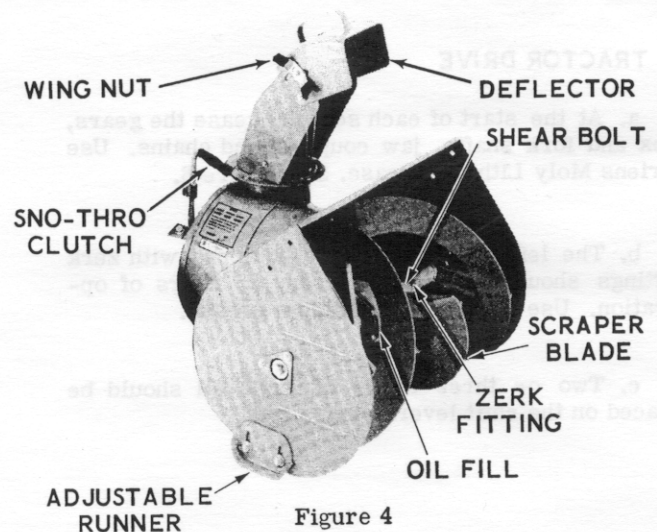

Figure 4
(1) Fasten the chute control crank to the tractor handle bar with the hardware provided. Position the worm gear so that it meshes properly with the chute. Fasten securely.
a. An adjustable runner is provided on each side of the blower housing (figure 4). Raising or lowering these runners controls the distance the scraper blade is held above the surface being cleared. Adjustment is accomplished by loosening the two nuts on each of the runners to the desired position and retightening the nuts. When blowing snow off concrete or other hard surfaces, these runners should be adjusted so that they are approximately 1/8-inch below the scraper blade. When blowing snow off gravel driveways or other gravel areas, adjust the runners so that they are 1-1/4-inches below the scraper blade.
A scraper blade (figure 4) is provided along the bottom edge of the blower housing. During operation, this blade runs along the surface being
Occasionally a small object may enter the rotor and become jammed in the blades. When this occurs, the shear bolts, located on the shaft on which the rotor is mounted, will break and allow the rotor to turn freely on the shaft. Before blowing can be continued, this shear bolt must be replaced. See figure 4. USE ONLY ARIENS SHEAR BOLTS. USE OF OTHER TYPES OF BOLTS MAY RESULT IN SEVERE DAMAGE TO MACHINE. STOP THE ENGINE BEFORE ATTEMPTING TO REMOVE OBSTRUCTIONS OR REPLACE SHEAR BOLTS.